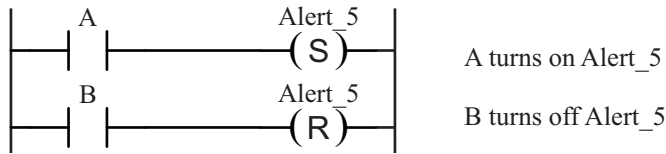

Figure 2.8. Set and reset coil example.
2. The set and reset coils are used in conjunction with each other. Figure 2.8 is a short example using these two coils in conjunction to control an alert.